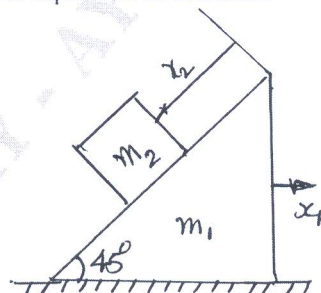

Fig.Q4(b)
- b. A block of mass ( $m_2$ ) which slides on another block of mass ( $m_1$ ) which in turn slides on a horizontal surface as shown in Fig.Q4(b). Using Lagrange's equation and  $x_1, x_2$  coordinates obtain the differential equation of motion.